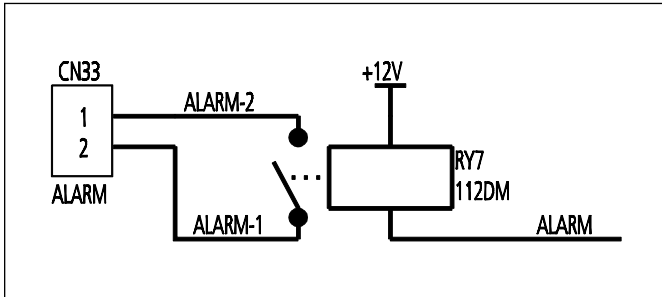

Figure 58
1. The terminal port is available to connect ALARM, but power supply is not from the Indoor Unit (Fig. 58).